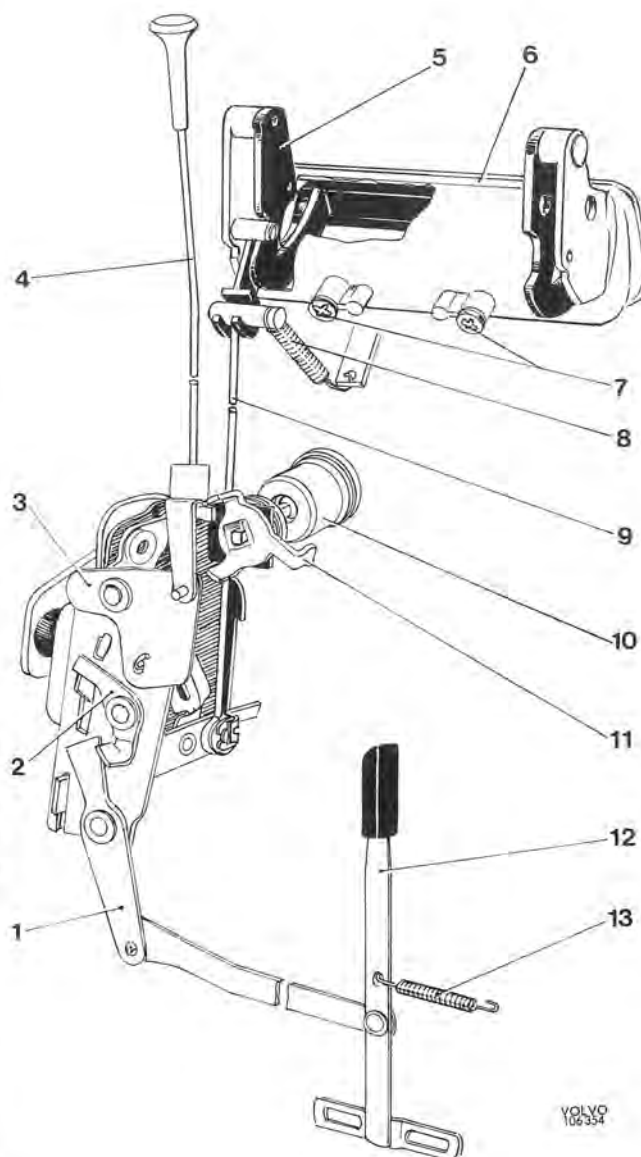

Fig. 8-13. Lock, front door
3. Wind down the window to get at the two retaining screws (7, Fig. 8-13). Remove the screws.
1. Place the handle in position in the door and move the pull rod (9, Fig. 8-13) in the lifting arm for the handle.
2. Screw in both the attaching screws (7, Fig. 8-13).
3. Check to make sure the lock functions properly. If necessary, adjust the length on the pull rod (9, Fig. 8-13).
4. Install the return spring (8, Fig. 8-13).